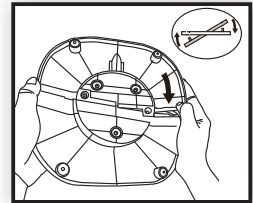

Figure 5
3. Press two halves of the base, as in Figure 5, to interlock them together. (Figure 5)